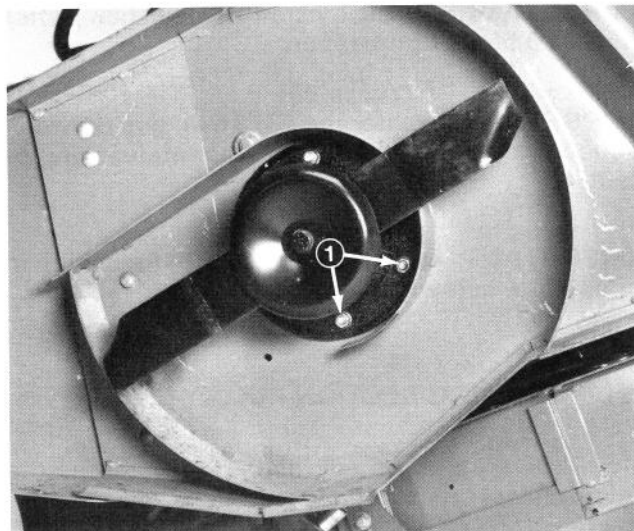
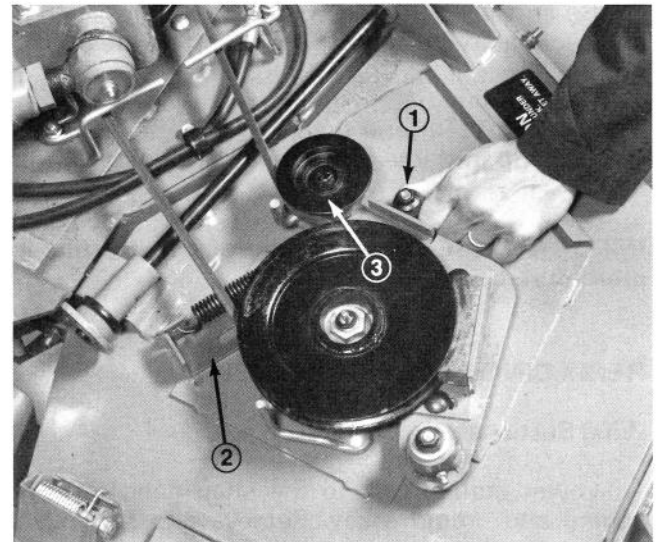

Figure 29
Figure 30
Loosen two capscrews (capscrew nuts are located under the deck) securing spring bracket (Fig 29). Slide the spring bracket (Fig. 30) so that the rubber bumper, at one end, just contacts the edge of the idler arm and tighten capscrew nuts, under deck, to secure the spring bracket. With the spring bracket in this position the belt is properly tensioned.
2. With the wing unit raised, loosen nuts on cap-screws holding the spring bracket from under the deck (Fig 29).
3. With spring tension relaxed, lower wings, loosen or remove the idler pulley bolt (Fig. 30) to allow the belt to pass between the belt guide and the idler pulley.